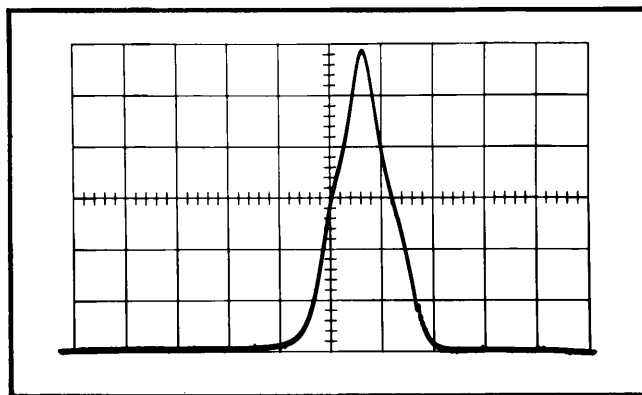

Fig. 6-10. Typical spectrum display for adjusting R543 (Step 4).
i. Adjust R543 (100 kHz Resol Cal) for a signal 1.2 centimeters wide at 3 centimeters above the baseline. See Fig. 6-10. (Adjust the GAIN control for 6 centimeters display during this step.)